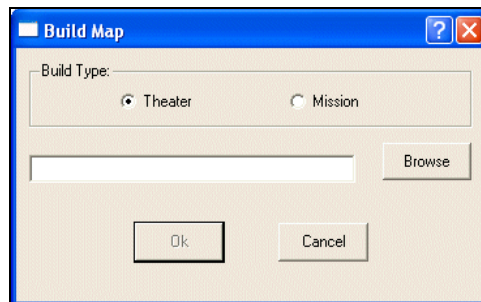
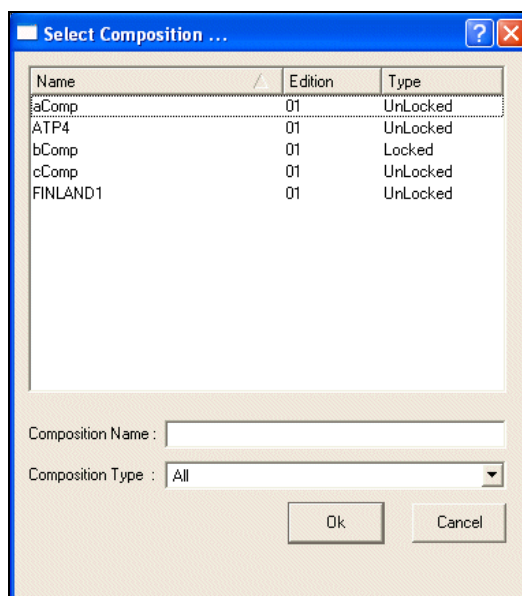

Fig. 59 — Build Map window
Fig. 60 — Build map composition browser
1. From the MMCPC main menu, click Build, then Build Map (Fig. 32). A Build Map window is displayed (Fig. 59). If a composition is open, the user will be prompted to save it before the Build Map window is displayed. The open composition will be the default composition shown in the Build Map window. However, the user may click Browse and choose any other non-obsolete composition that exists within MMCPC (Fig. 60).